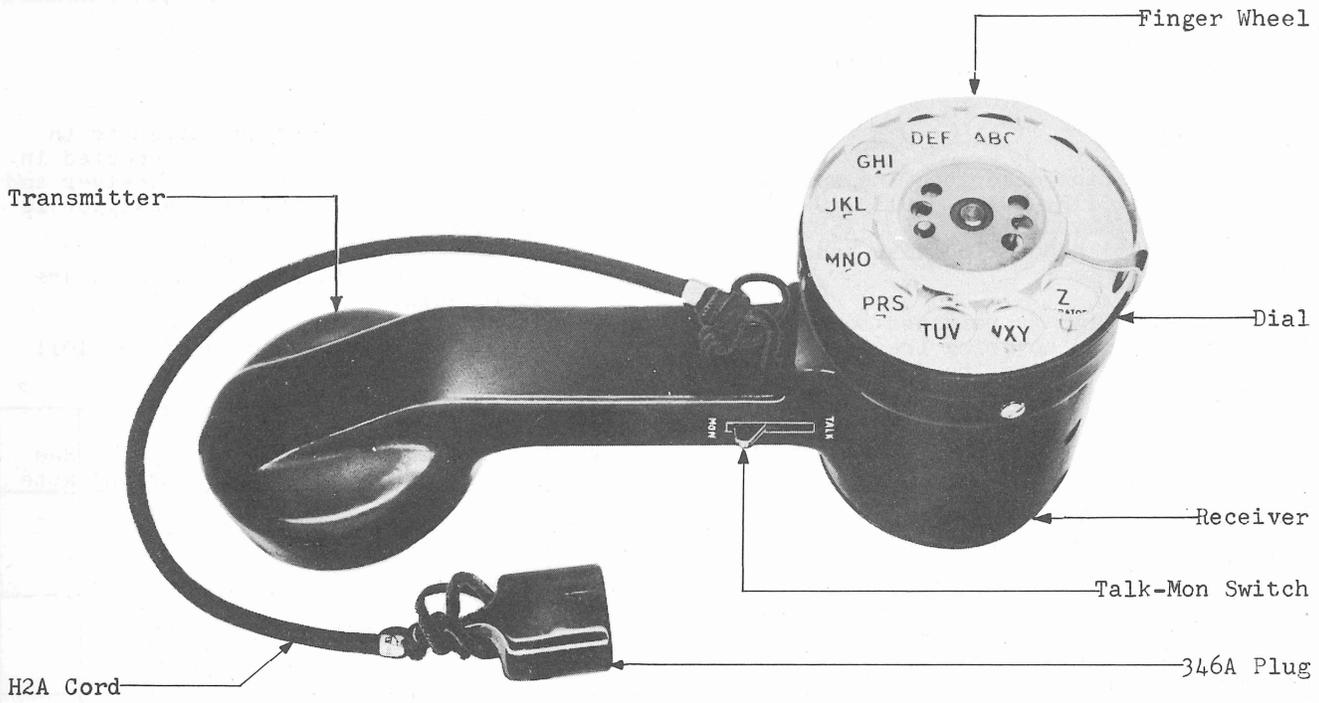
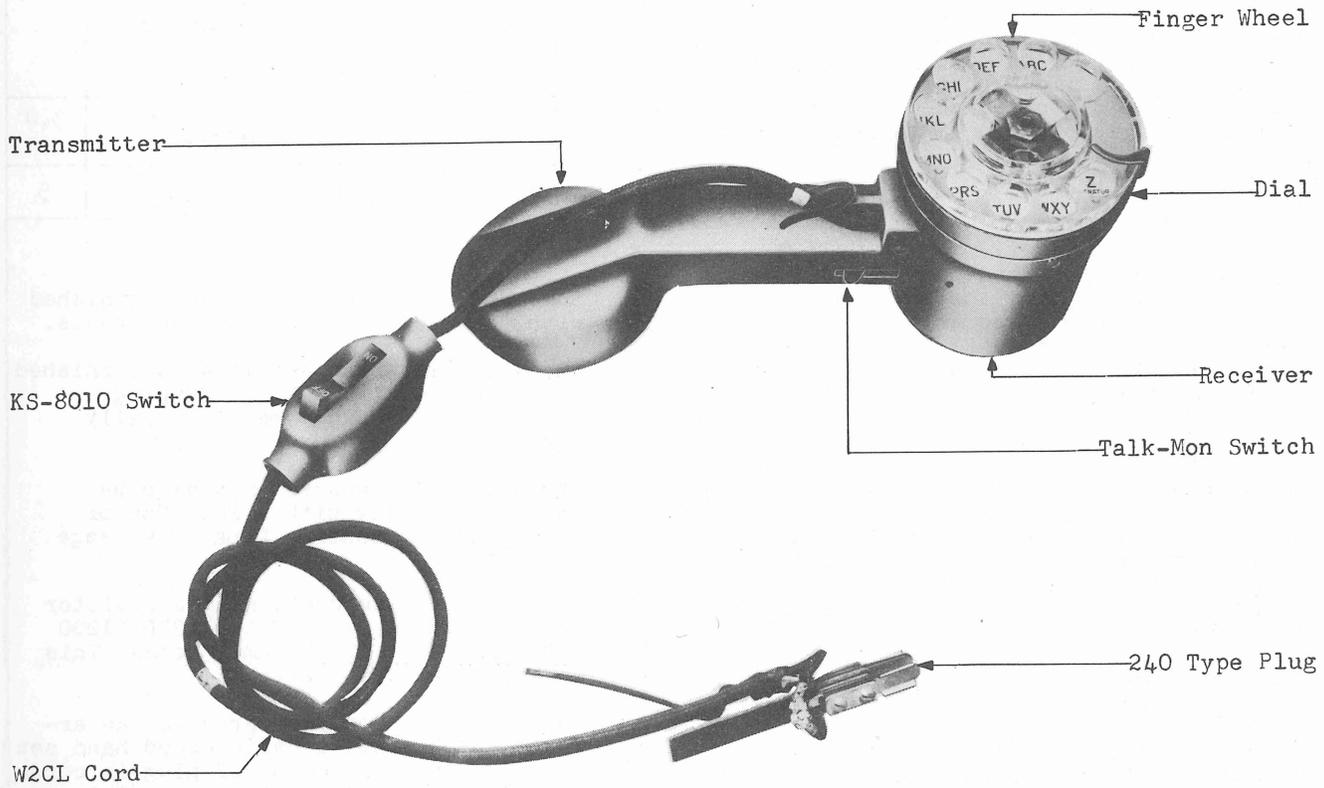

Fig. 1 - No. 1011G Hand Set
Fig. 2 - General View of 1011-type Hand Sets Other Than the 1011G
2.01 All 1011-type hand sets covered by this section are the same, except for the cord arrangements as shown in 2.03. The hand set consists of an F1 transmitter unit, an HA1 receiver unit, a switch for monitoring and talking, a No. 361C capacitor, a No. 6A dial and a dial mounting. These parts are assembled in a molded rubber mounting. The P-248137 dial mounting and a No. 52D dial adapter are used to assemble the dial to the rubber mounting. Some hand sets were furnished with a No. 5HB dial which has a metal finger wheel. Fig. 1 shows a view of the No. 1011G hand set and Fig. 2 shows a general view of other 1011 type, except the No. 1011G.